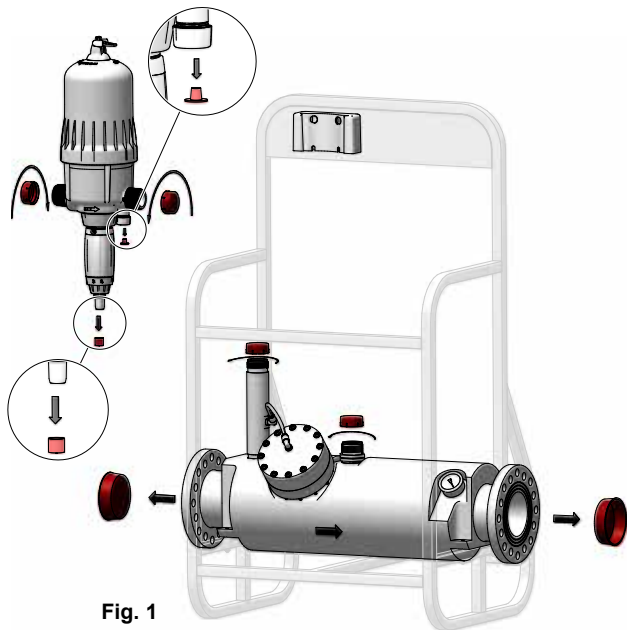

Fig. 1
Remove the plugs and protective caps (**Fig.1**) covering the ports of your dosing pump before connecting it to the water system.
- Screw the plastic elbow fittings onto the dosing pump inlet and outlet. Make sure that the ends of the elbow fittings are vertical. (Fig 1.a)
- Screw the short hose directly onto the elbow fitting positioned upstream of the dosing unit (1).
- Screw the long hose directly onto the elbow fitting positioned downstream of the dosing unit (2).
- Connect the free end of the long upstream hose to the regulator tube (3).
- Finally, screw the free end of the short downstream short hose onto the regulator (4).